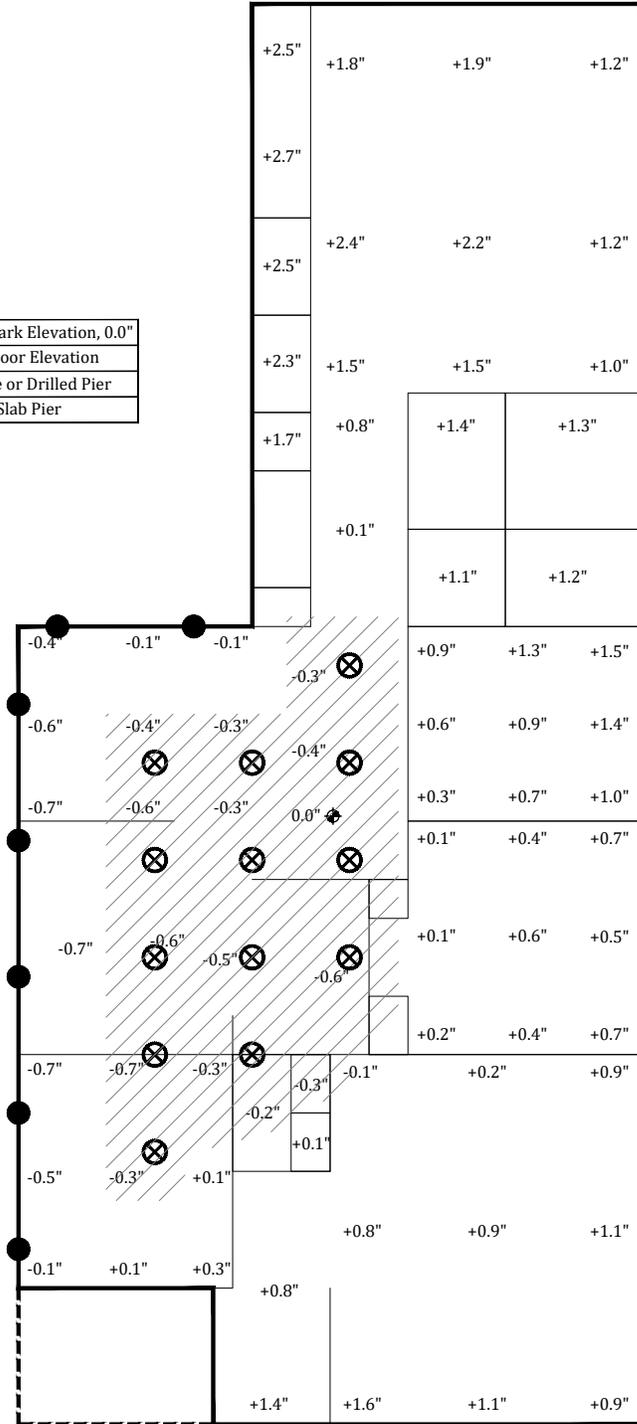
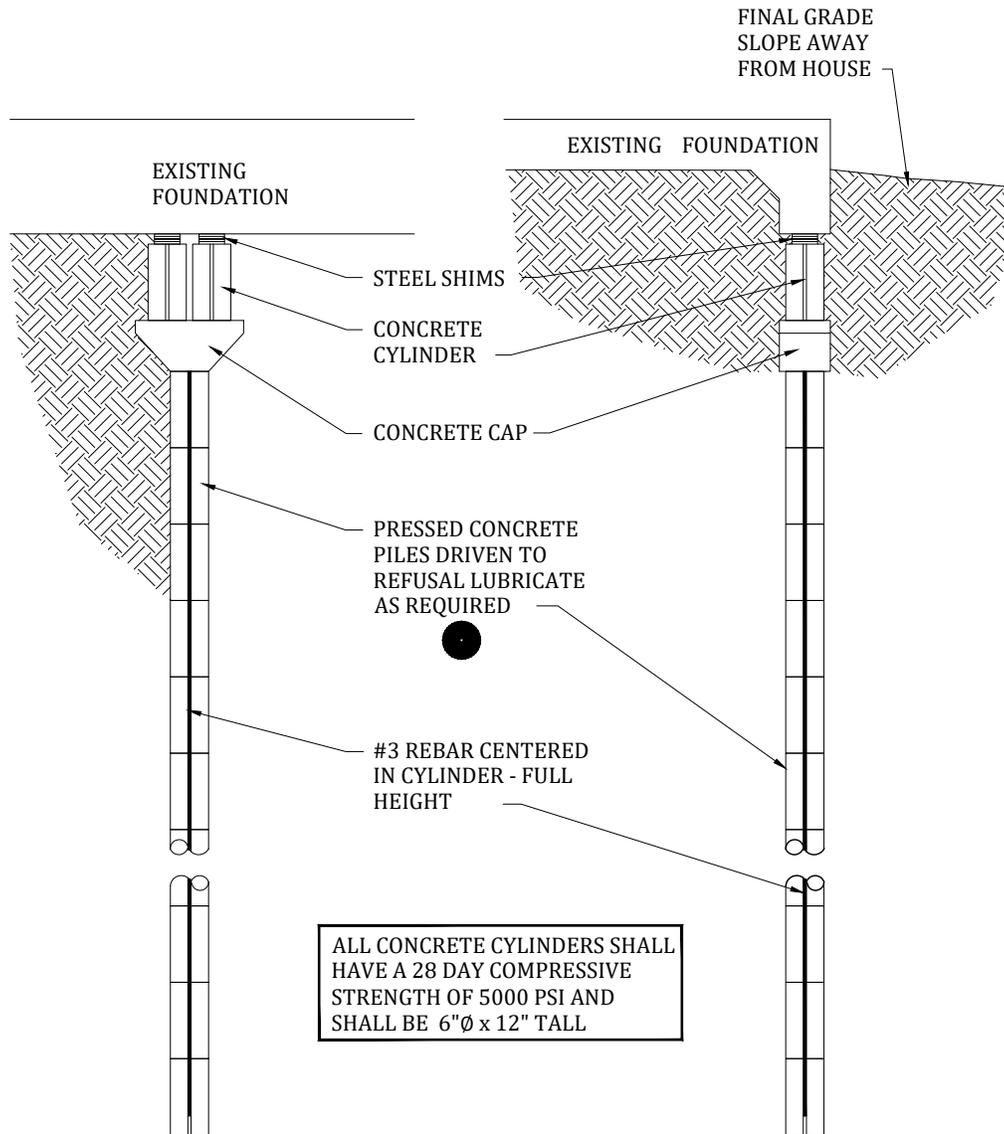

FIGURE 1
FIGURE 2
An interior floor elevation survey was performed on the living area of the house, with the elevations recorded to the nearest 10th of an inch (0.1"). Adjustments were made to account for the thickness of the floor coverings. A benchmark elevation of 0.0 inches was established near the center of the house as shown in Figure 1 of this report.
- 1) To stabilize and lift the perimeter foundation wall, install (7) perimeter and (13) interior piles or drilled piers as shown on Figure 1 of this report. The piles can be concrete cylinders, steel pipe, or helical screws. Refer to Figures 2, 3, 4, and 5 of this report. Space